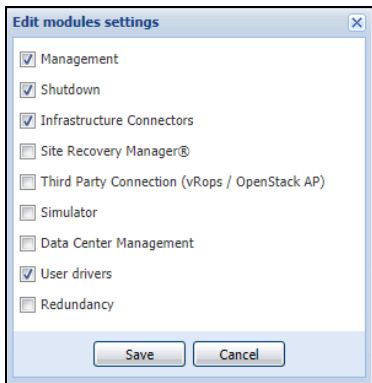

Figure 205. Edit Modules Settings - Infrastructure Connectors
2. Click **Edit modules settings** in the right panel. The Edit modules settings dialog box displays (see Figure 205).